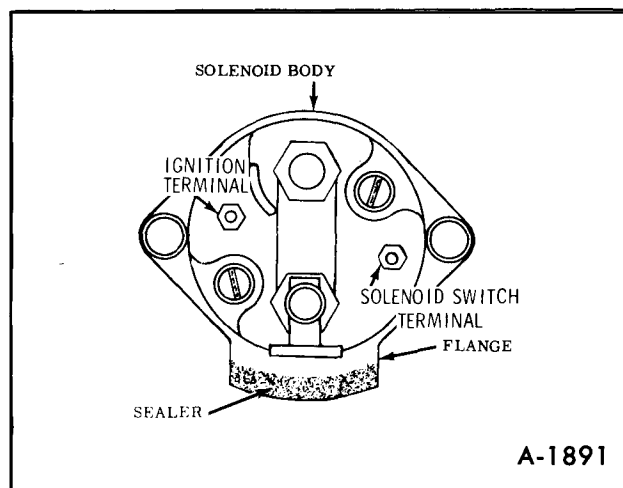

Figure 78—Solenoid Terminals and Sealing
5. Apply sealer, No. 1050026 or equivalent on solenoid flange as shown in (figure 78).
To check, connect a voltage source of approximately 6 volts between the solenoid switch terminal and ground. (figure 78)